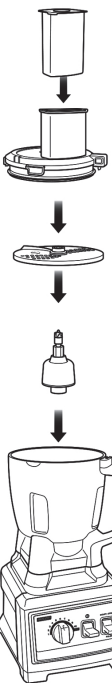

Fig. 24
- Place the motor base on a clean, dry, level surface such as a counter or table top. (Fig. 24)
- Place the feed chute lid on the bowl and turn clockwise to lock in place. (Fig. 24)
- Add the food that you want to slice, shred or grate through the feed chute on the lid. (Fig. 24)